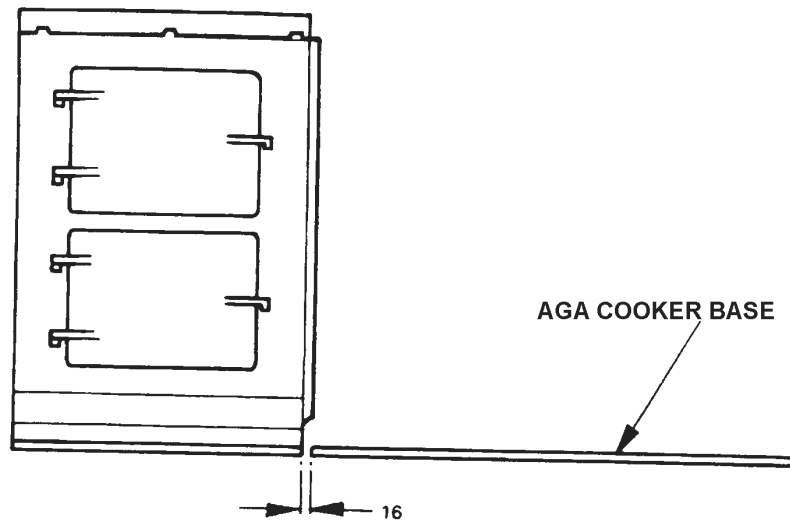

Fig. 9.1
6. Position the cooker alongside the main AGA baseplate leaving 16mm between the two bases (see **Fig. 9.1**). Check with a spirit level that the front plate is vertical and the ovens level. Shim under the module base if necessary.